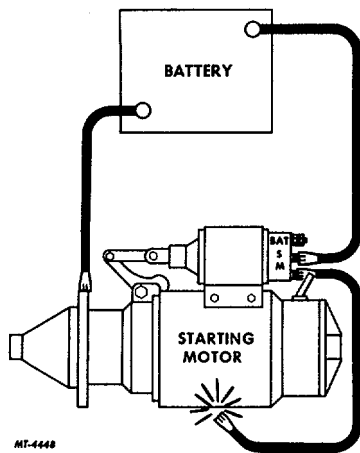

Fig. 15. Pinion Drive Clearance Check Hookup
2. Connect a battery, of the same voltage as the solenoid, one lead to solenoid switch terminal and the other to the starter or solenoid frame, Fig. 15.